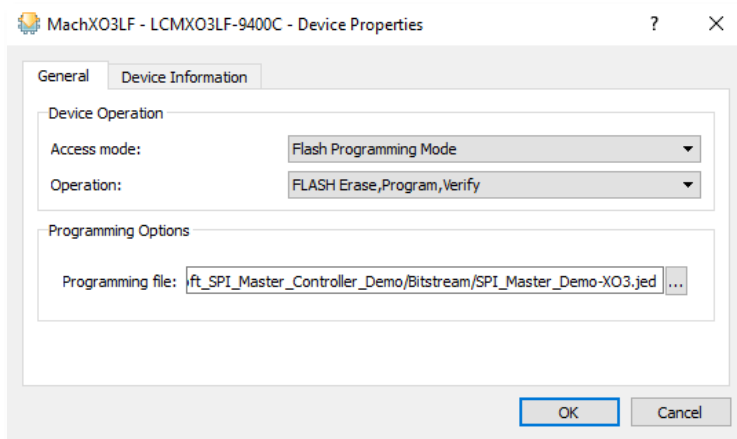

Figure 5.3. Device Properties
3. Right-click and select **Device Properties** and apply the settings as shown in Figure 5.3.